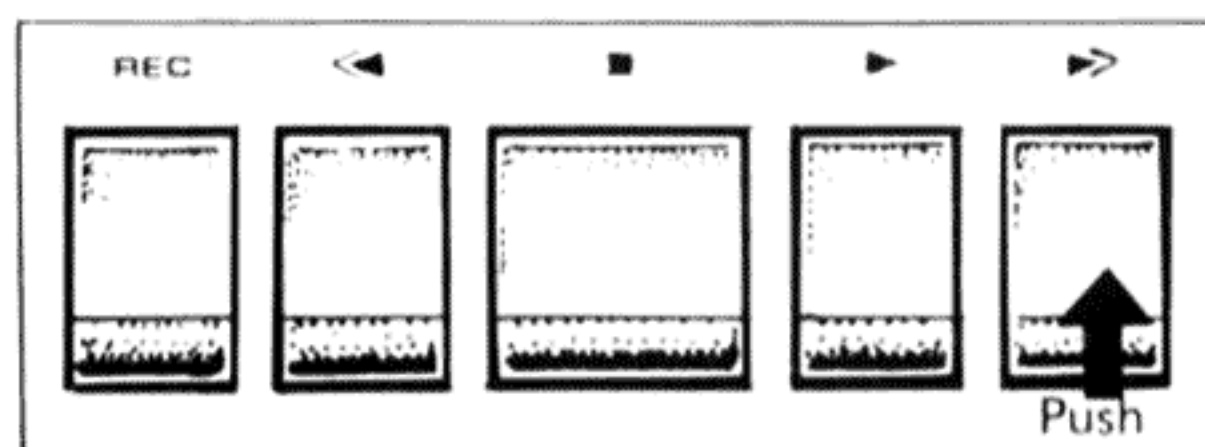

Fig. 24
1. Push the ► FAST FORWARD button (Fig. 24). The tape will be wound from left to right at fast speed.